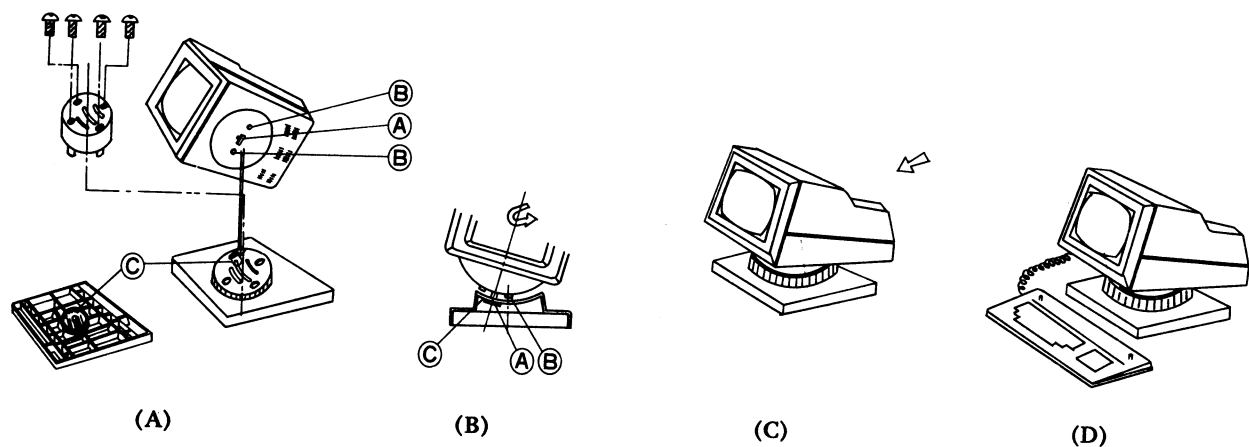

Figure 3-1: How to Assemble Main Cabinet and Pedestal
- b. Attach the neck to the pedestal as shown in figure 3-1 (A). If use of the neck piece is not desired, skip this step.
- c. Attach the pedestal to the main cabinet as shown in figure 3-1 (A) & (B). An indent in the bottom of the base is provided for rotating the pedestal 90° while being held slightly away from the base of the terminal.
- e. Slide the pedestal along the guide groove to the rear side of the cabinet to locate the center of the pedestal at the protruded area (slide guide) of the main cabinet. Refer to figure 3-1 (C).